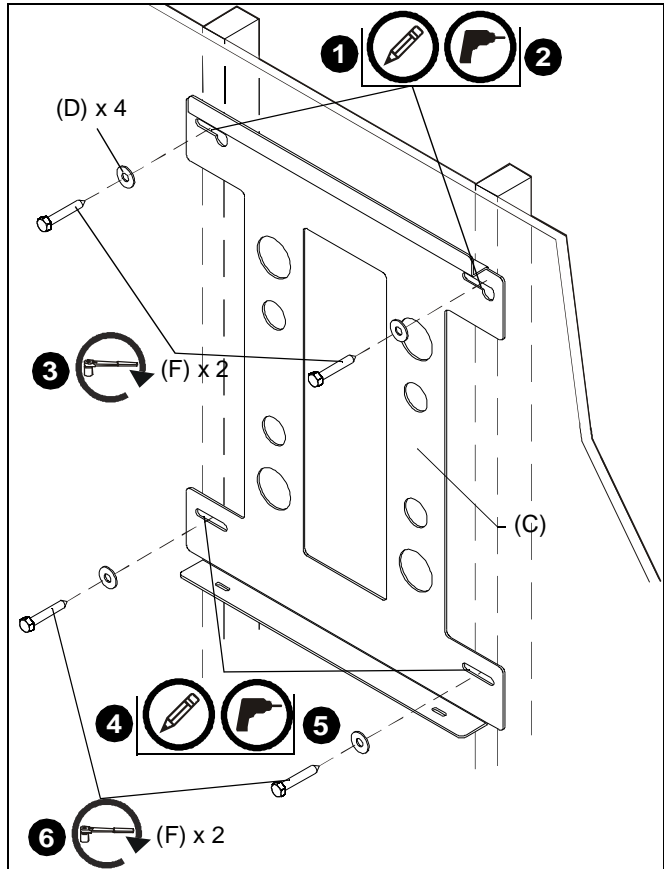

Figure 2
1. Using the mounting plate (C) as a template, mark the wall on each stud at the top mounting slots. (See Figure 2)
3. Use two 5/16 x 2-1/2" lag bolts (F) and two 5/16" flat washers (D) to attach top of mounting plate (C) to wall. (See Figure 2)
4. Mark the attachment points for the lower mounting slots, making sure the attachment points are located on the studs. (See Figure 2)
5. Drill 7/32" (5.5mm) pilot holes at markings for lower mounting holes. (See Figure 2)
6. Use two 5/16 x 2-1/2" lag bolts (F) and two 5/16" flat washers (D) to complete installing mounting plate (C) to the wall through the lower mounting holes. (See Figure 2)
4. Use two 5/16 x 2-1/2" lag bolts (F) and two 5/16" flat washers (D) to attach top of mounting plate (C) to anchors in wall. (See Figure 2)